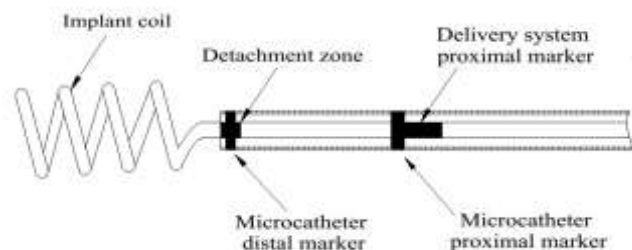

Fig.2 Position of Marker Bands for Detachment
(7) Visually verify that the flushing solution is infusing normally. Once confirmed, loosen the RHV enough to advance the delivery system, but not to influence the continuous flushing.
(8) Under fluoroscopic guidance, slowly advance the ECS coil out the tip of the microcatheter. Continue to advance the ECS coil into the lesion until optimal deployment is achieved. Reposition if necessary. **If the coil size is not suitable, remove and replace with another device.**
(9) Advance the coil into the desired site until the radiopaque proximal marker on the delivery system is adjacent to the proximal marker on the microcatheter. The proximal end of the coil is inside the microcatheter (see Fig.2).